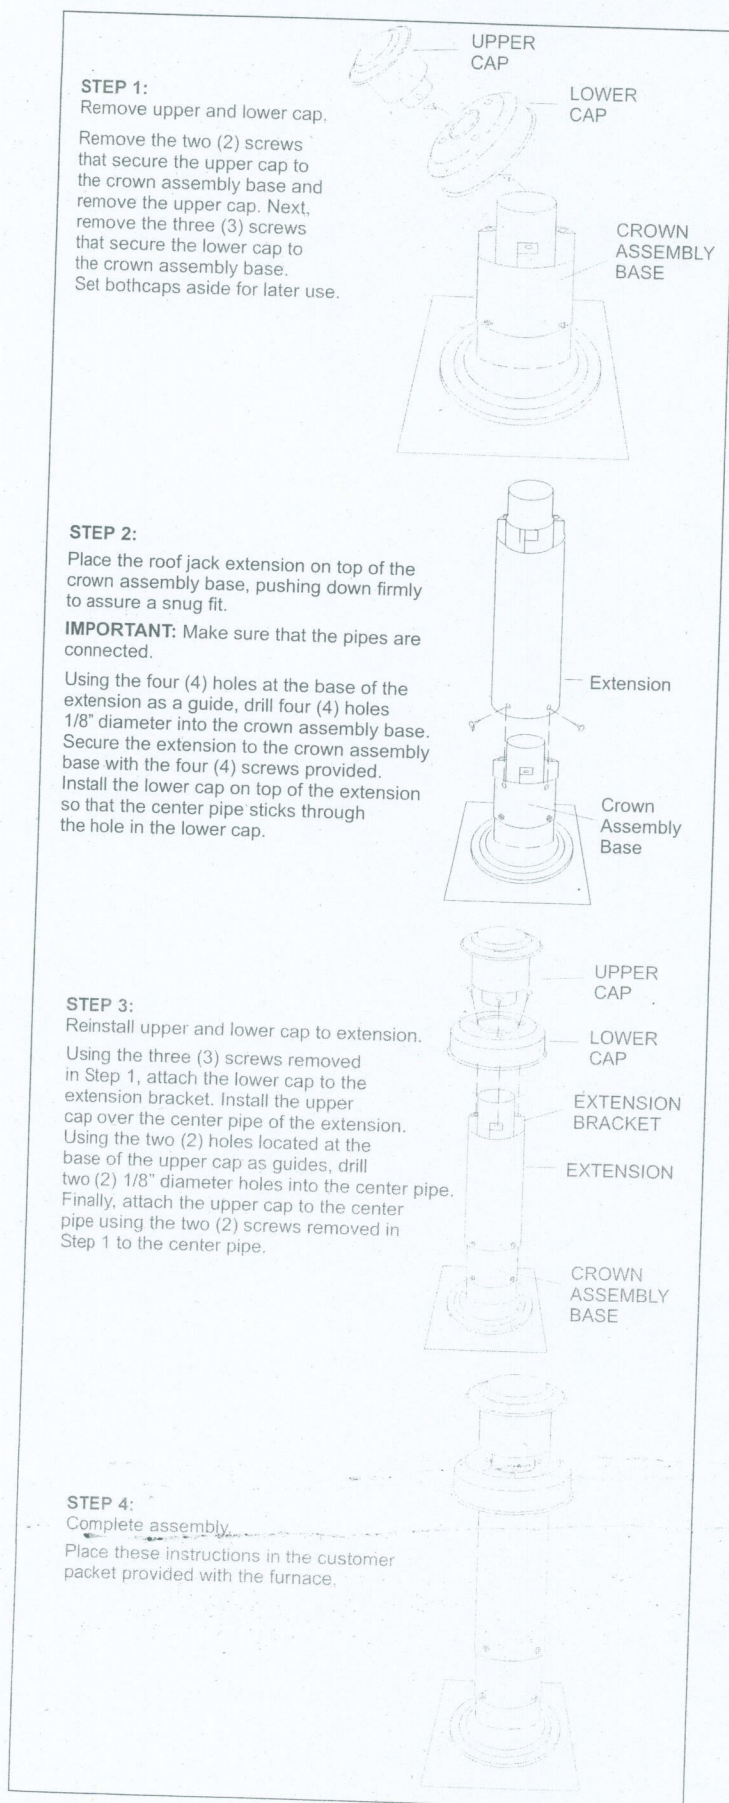

FIGURE 23: Roof Jack
1. Install Exterior Roof Jack Extension, if applicable. Refer to installation instructions provided with Exterior Roof Jack Extension. Refer to Figure 23.